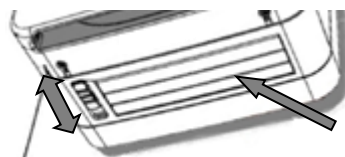

Figure 20
14. Check and open the bottom grille with the specific lever (Figure 20) to activate the air exchange with the heat recovery function.